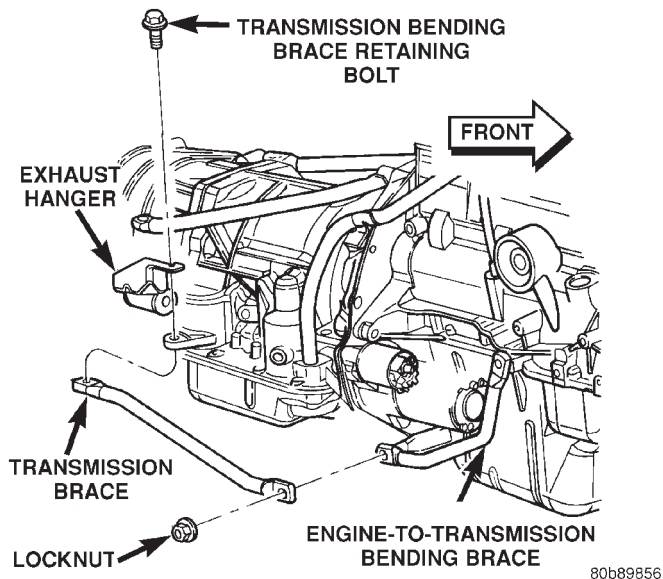

Fig. 28 Transmission Bending Braces and Exhaust Hanger
- (1) Position the cross brace into the engine-to-transmission brace, then position the engine-to-transmission brace and install retaining bolt.
- (2) Position the transmission bending brace onto through brace and install new locknut.
- (3) Position exhaust hanger and transmission brace, install retaining bolt (Fig. 28).
(5) Tighten transmission brace retaining bolts (Fig. 28) to 40 N·m (30 ft. lbs.), then tighten transmission brace retaining lock nuts (Fig. 28) to 108 N·m (80 ft. lbs.).